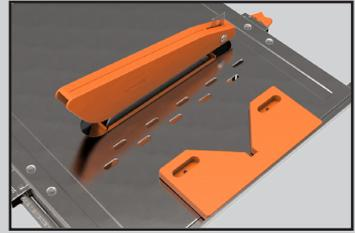

Fig. 6
- Use the adjusting knob to set the guide to the required angle (Fig 6).